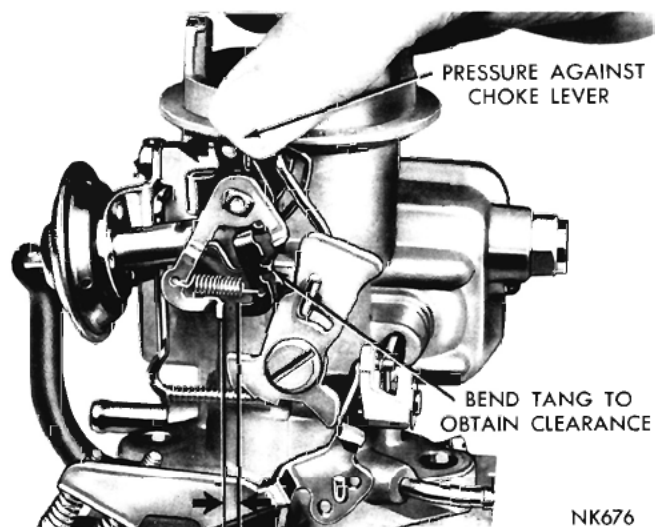

Fig. 18—Spring Staged Choke Clearance
ating clearance, refer to (Fig. 18), then proceed as follows:
(1) With the choke closed, press the hub lever firmly in the closing direction.
(2) Check the clearance between the hub lever and the shaft lever, as shown in (Fig. 18).
(3) The clearance in this position, should be from .020 to .040 inches.
(4) If an adjustment is necessary, bend the lever tang slightly, until correct clearance has been obtained.